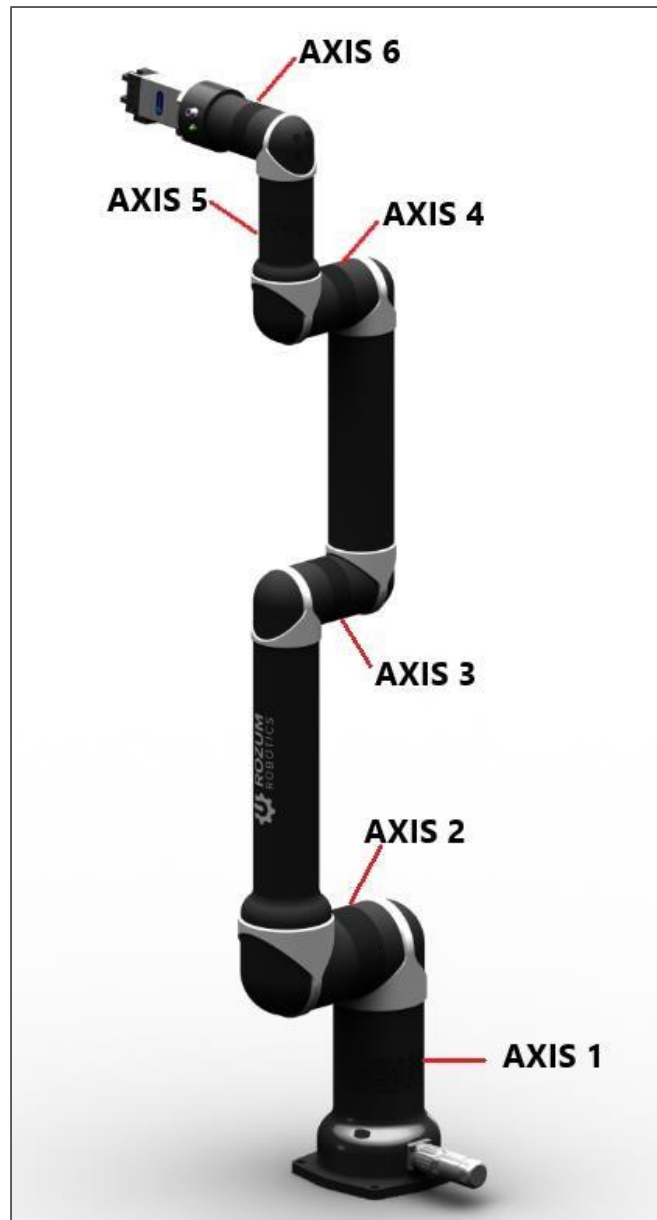

Figure 1-13: PULSE arm axes
- which axis (one or more) has a motor with a twist (for axis numbers, see **Figure 1-13**)
1. Rotate the axis (axes) with a detected twist manually as specified in the twist detection alert. For axis numbers, see **Figure 1-13**.